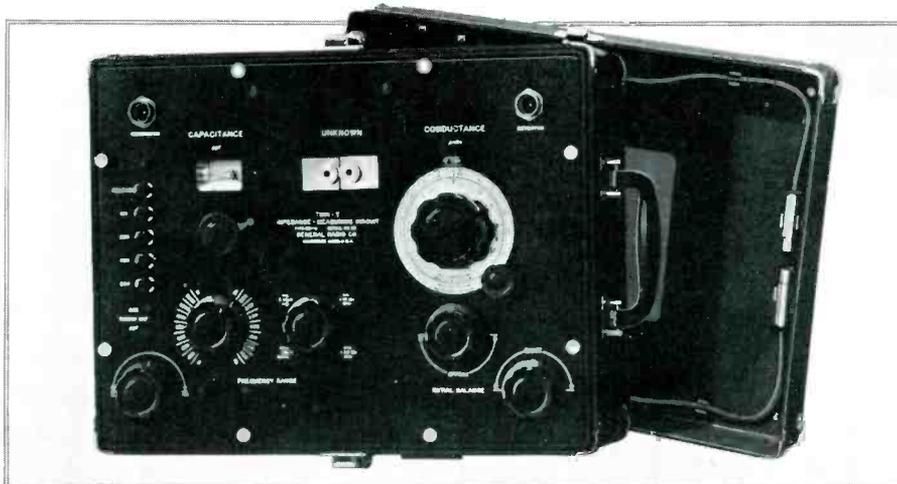

FIG. 2. TWIN-T IMPEDANCE MEASURING CIRCUIT, WITH COVER REMOVED
1.7 Panel Layout and Circuit ★ A panel view of the Twin-T is shown in Fig. 2. The controls, plainly marked on the panel, are: